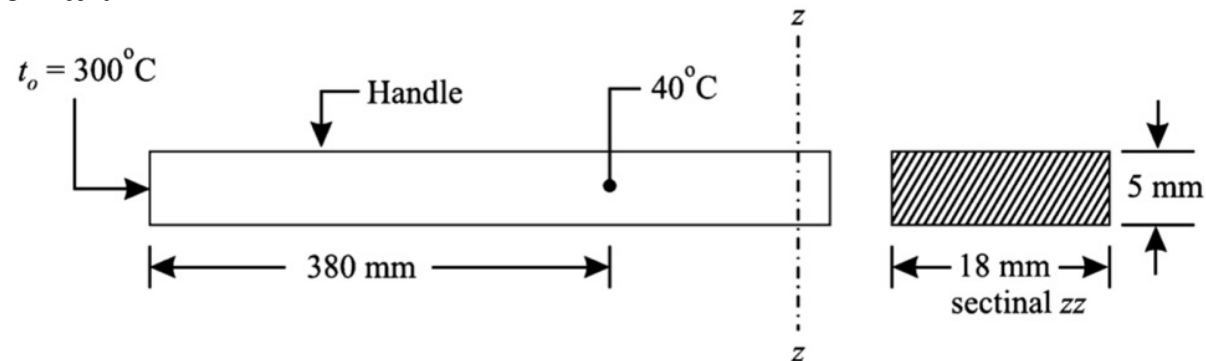

Fig. 2.124.
**Solution.** Refer to Fig. 2.124.  $t_o = 300^{\circ}\text{C}$ ;  $b = 18\text{ mm} = 0.018\text{ m}$ ;